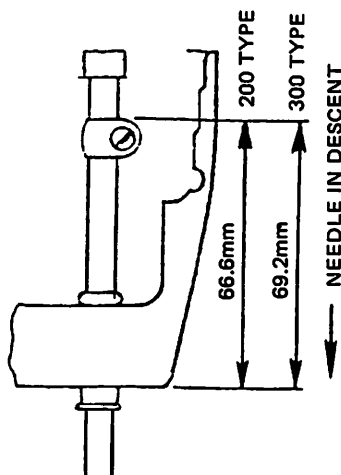

Fig. 26
2. Turn machine pulley over toward front of machine until the needle bar is beyond upper dead center and descends to the point shown in Fig. 26 or 27.